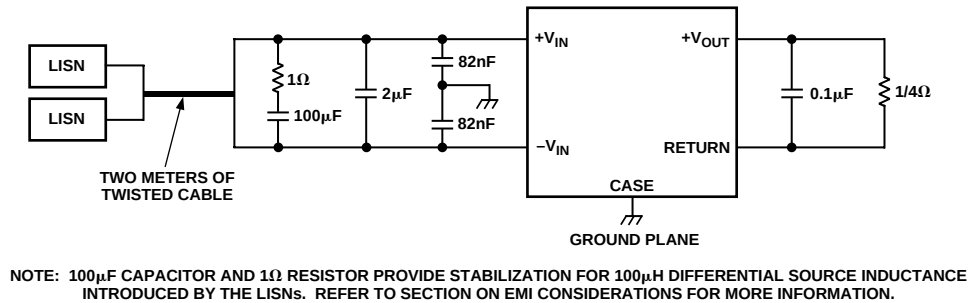

Figure 17. Schematic of Test Setup for EMI Measurements
**Input Voltage Transient Protection:** The converters have a transient voltage suppressor connected across their input leads to protect the units against high voltage pulses (both positive and negative) of short duration. With the power supply connected in the typical system setup shown in Figure 17, a transient voltage pulse is created across the converter in the following manner. A 20  $\mu\text{F}$  capacitor is first charged to 400 V. It is then connected directly across the converter's end of the two meter power lead cable through a 2  $\Omega$  on-state resistance MOSFET. The duration of this connection is 10  $\mu\text{s}$ . The pulse is repeated every second for 30 minutes. This test is repeated with the connection of the 20  $\mu\text{F}$  capacitor reversed to create a negative pulse on the supply leads. (If continuous reverse voltage protection is required, a diode can be added externally in series at the expense of lower efficiency for the power system.)